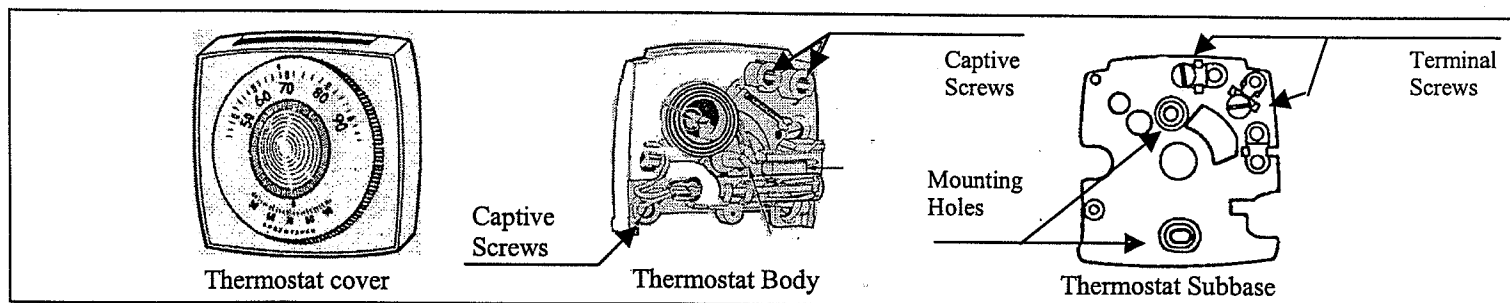

Figure 6
1. Remove friction fit cover (see figure 6 page 10) from the thermostat body by gripping at top and bottom and lifting from thermostat body. Use extreme care not to damage working parts.
2. Remove subbase from the thermostat body by loosening the 3 captive screws (see figure 6 page 10).
5. Connect thermostat wires to applicable terminal screws (see figure 6 page 10). The red wire to one and the white wire to the other. It does not make any difference, which wire or screw. Push excess wire back through hole in subbase.
6. Mount thermostat body on subbase using three captive screws (see figure 6 page 10). Captive screw in the lower left corner of body is self threading into subbase. Use care not to over-tighten.